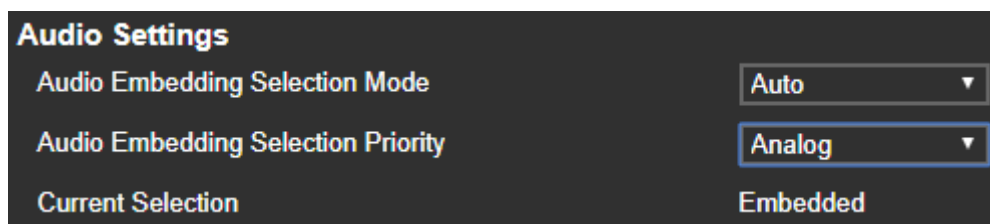

Figure 12: TP-594Txr Video and Audio Page – Auto Priority Audio Settings
3. Under Audio Settings (Figure 12):